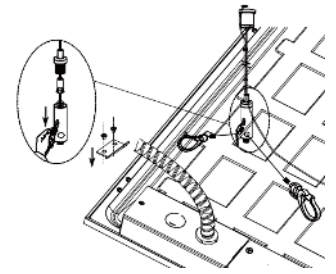

Fig. 8
2. Adjust aircraft cables to desired length (Fig. 8)